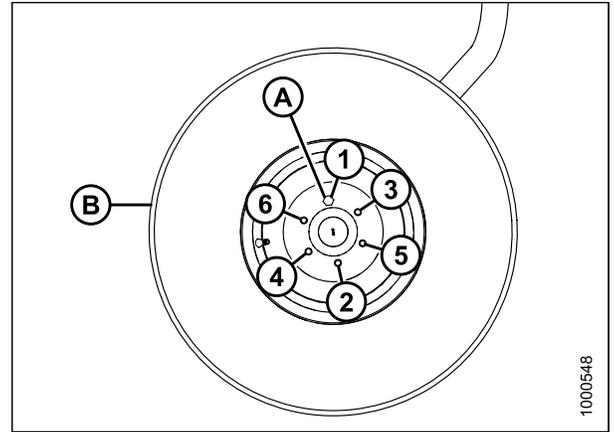

Figure 5.213: Formed Caster Wheel Nut Tightening Sequence
Wheel bolt (A) tightening sequence for a **formed** caster wheel (B) shown in Figure 5.213, page 427.